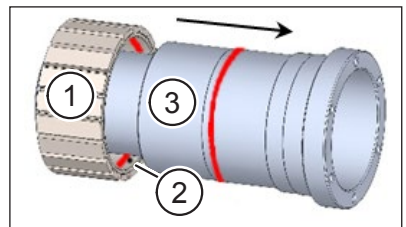

Fig. 12: Pushing the rotor onto the shaft
- ▶ Align the rotor so that the indexing hole (item 2 in Fig. 12) points towards the shaft (see Fig. 12).
- ▶ Push the rotor (item 1 in Fig. 12) onto the shaft (item 3 in Fig. 12) and gently push it as far as it will go.